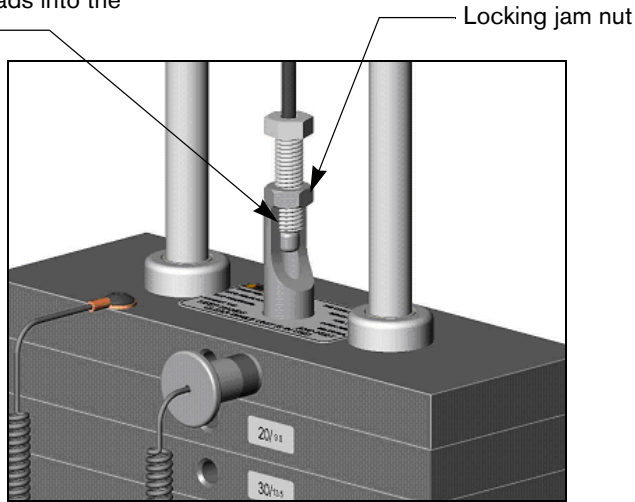

Figure 2: Cable bolt must have a minimum of seven threads into selector stem
- Ensure that the cable bolt is threaded a minimum of seven threads into the selector stem, and the locking jam nut is tight. (Refer to Figure 2.)